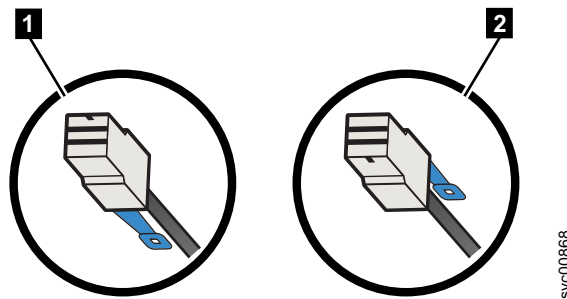

Figure 50. SAS cable connector orientation
- When you connect an expansion enclosure, the blue pull tab must be below the cable (**1** in Figure 50).
- When you connect a , the blue pull tab must be above the connector (**2** in Figure 50).